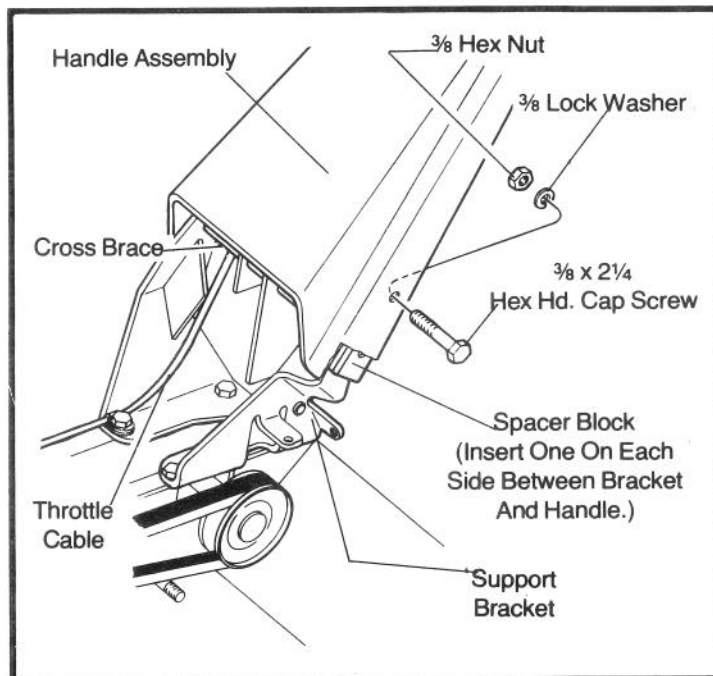
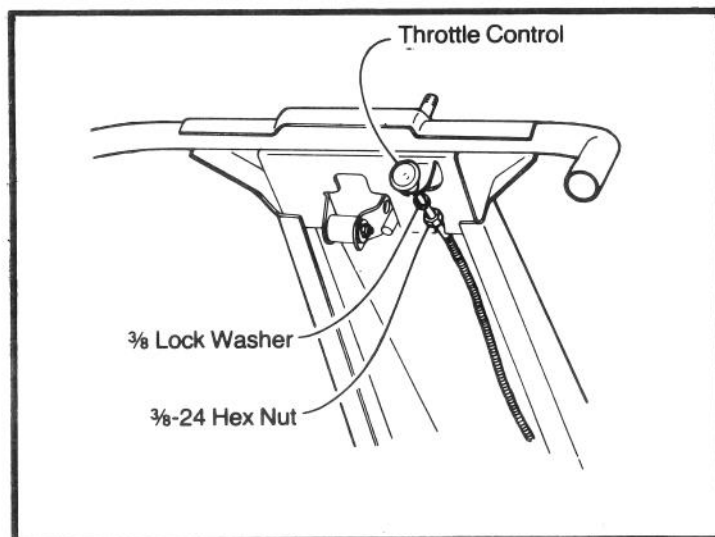

FIGURE 1
FIGURE 2
- A. Position handle over support brackets as shown in Fig. 1. Insert a spacer block* on each side (between bracket and handle) then slide a $\frac{3}{8}$ x $2\frac{1}{4}$ cap screw* through the bottom hole in handle, spacer block, and bracket. Assemble a $\frac{3}{8}$ lock washer* and $\frac{3}{8}$ hex nut* onto both cap screws but do not fully tighten at this time.
- C. Insert the two remaining $\frac{3}{8}$ x $2\frac{1}{4}$ cap screws* through the lined up top holes in handle, spacer blocks, and support bracket. Secure each cap screw with lock washer and $\frac{3}{8}$ hex nut. **At this time tighten all (4) cap screws.**
3. Attach the throttle control to the handle panel, Fig. 2. (Be sure throttle cable is routed below cross brace, as shown in Fig. 1.)
Slide the threaded part of control into slot on the back of handle. Slide the $\frac{3}{8}$ lock washer and $\frac{3}{8}$ hex nut up the control cable and secure control to handle by tightening the hex nut to the control from underside of the slot. (**NOTE:** Lock washer and nut in Fig. 2 are placed on cable at factory.)